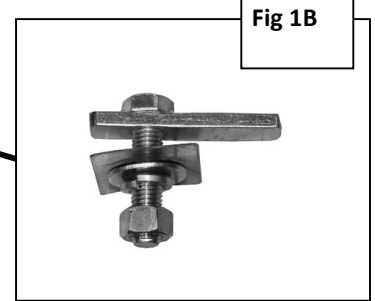

Fig 1B
3. Next, select (1) 12mm Bolt Plate and partially thread a Plastic Retainer onto it. Insert the Bolt Plate into the forward, smaller oval hole and install as per Step 2, **(Fig 1B & 2)**.